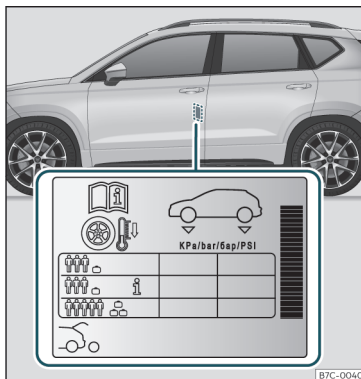

Fig. 209 Location of the tyre pressure sticker.
- Adjust tyre pressure to the load being carried by the vehicle»» **Fig. 209**.
The tyre inflation pressures are listed on a sticker on the rear of the front left door frame»» **Fig. 209**.
Depending on the vehicle, tyre pressure can be adjusted to medium load to improve driving comfort (tyre pressure **i**»» **Fig. 209**). When driving with comfort tyre pressure fuel consumption may increase slightly.
The tyre pressure must be adjusted according to the load the vehicle is carrying. If the vehicle is going to carry the maximum load, the tyre pressure should be increased to the maximum value indicated on the sticker »» **Fig. 209**.
In the case of a minimised temporary spare wheel (125/70 R18) inflate to a pressure of 4.2 bar as indicated on the tyre pressure label»» **Fig. 209**.
- The driver is responsible for ensuring that all of the vehicle tyres are correctly inflated to the right pressure. The recommended tyre pressure is indicated on the label »» **Fig. 209**.
- When the tyres are cold, tyre pressure should be that indicated on the label »» **Fig. 209**.